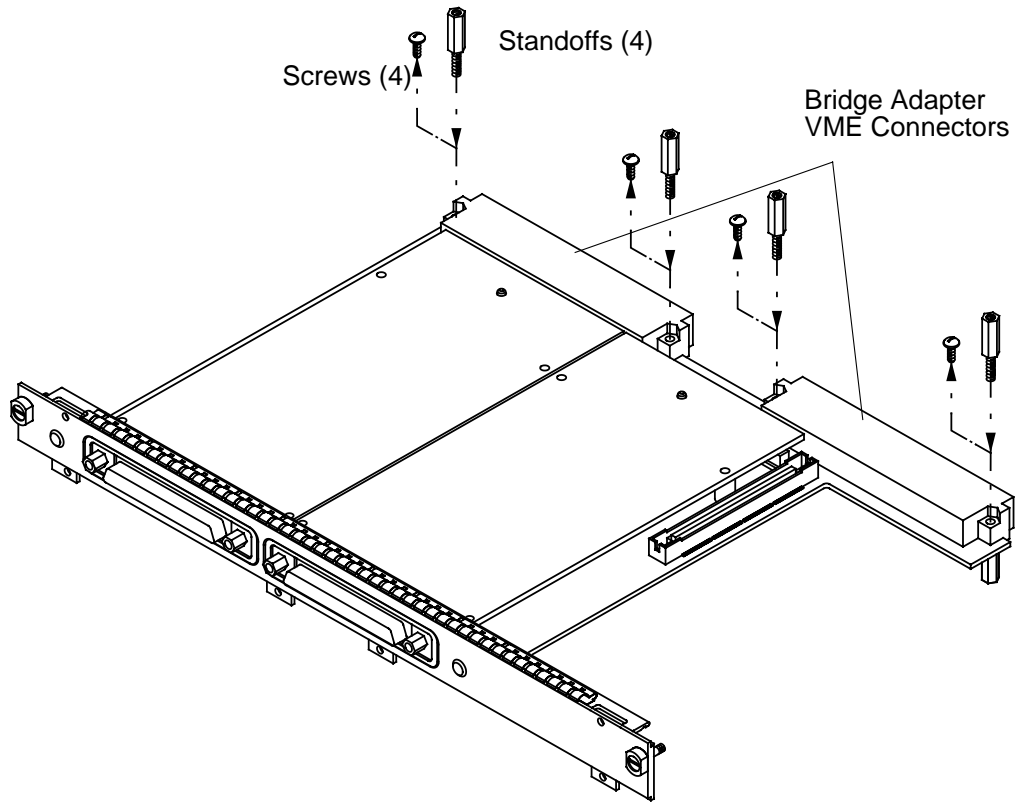

Figure 2-8 **Removing Bridge Adapter Screws and EMI Gasket**
- 8** **Remove** the four screws from bridge adapter VME connectors, and replace them with the four standoffs included in the expansion adapter kit. See Figure 2-8.